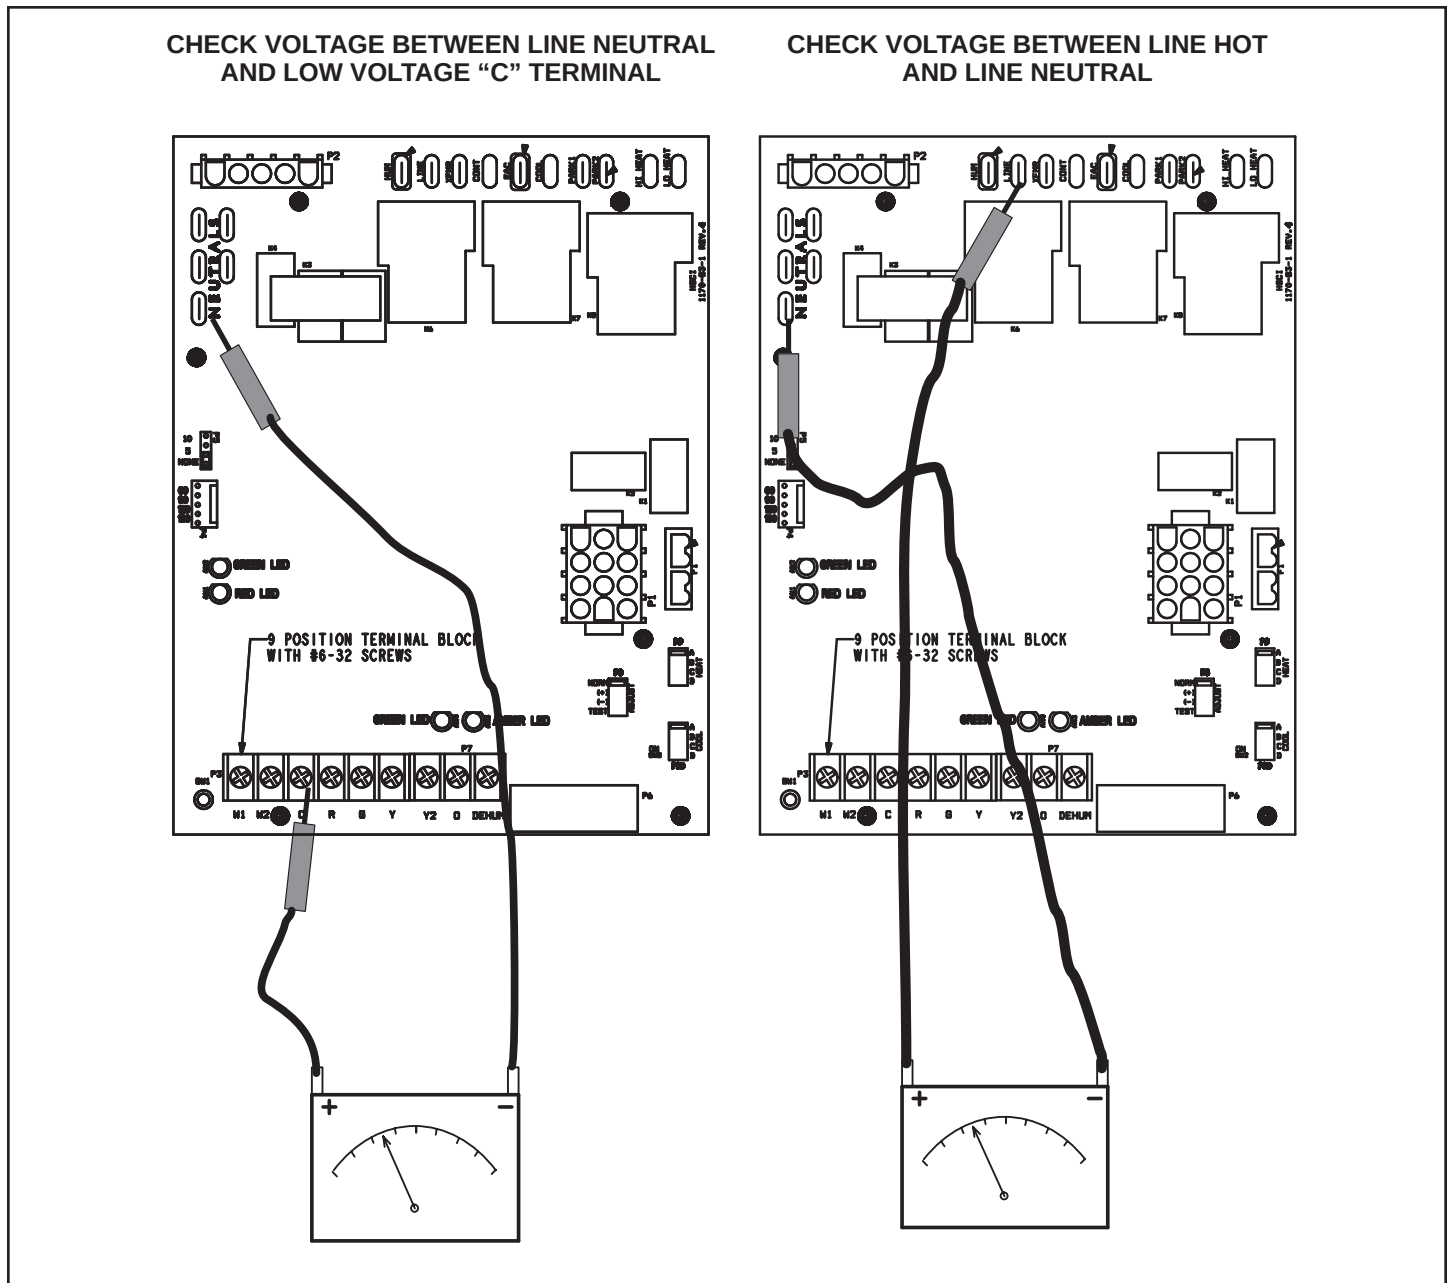

Figure 45. (IFC 103069-03 Shown)
1. Measure the AC voltage between Line Neutral (spade terminals) and "C" terminal (low voltage terminal block) on the integrated control. See Figure 45. A wide variation in the voltage between Line Neutral and "C" as a function of load indicates a poor or partial ground. Compare the readings to Table 17. If the readings exceed the maximum shown in Table 17, make repairs before operating the furnace.
1. In addition, measure the AC voltage from Line Hot to Line Neutral (spade terminals) on the integrated control. See Figure 45. This voltage should be in the range of 97 to 132 VAC